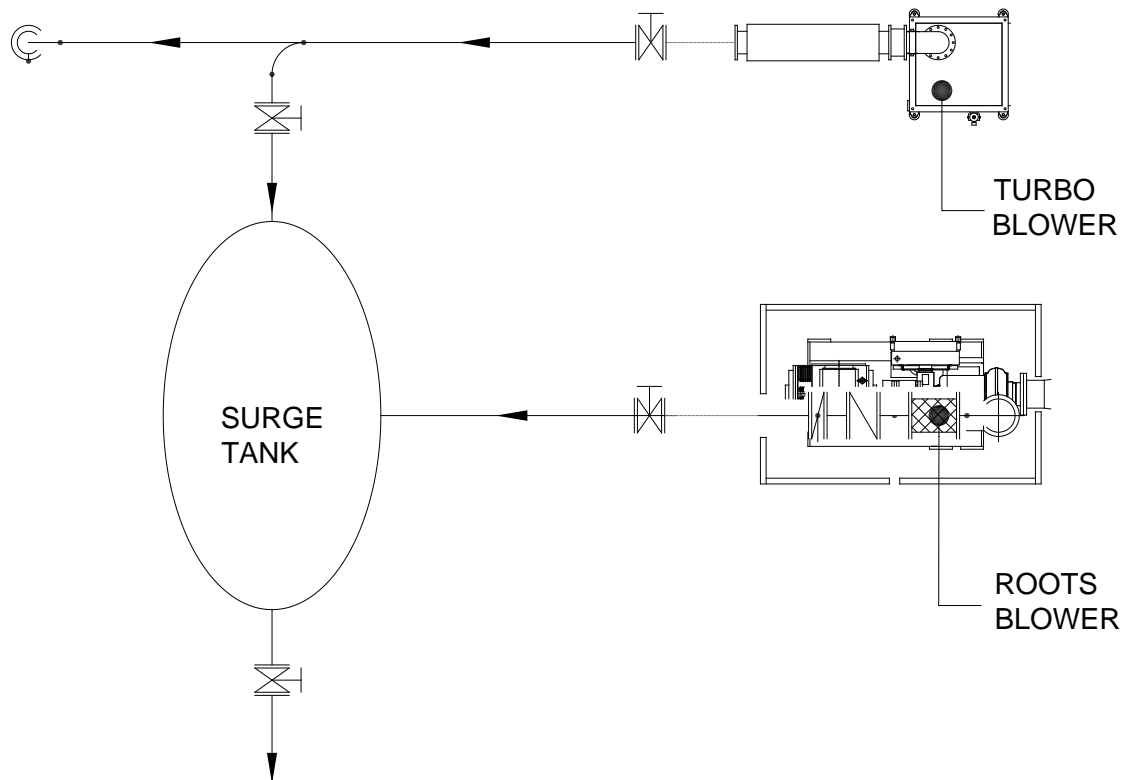

Figure 4-11. Recommended parallel Connection with Positive Displacement Blowers
4.6.1. Table 4-4 shows the specification for main power and ground cable as determined by “KS C IEC 60364-5-52:2004”. Cables should be connected as shown in Figure 4-11(Please follow local regulations.)